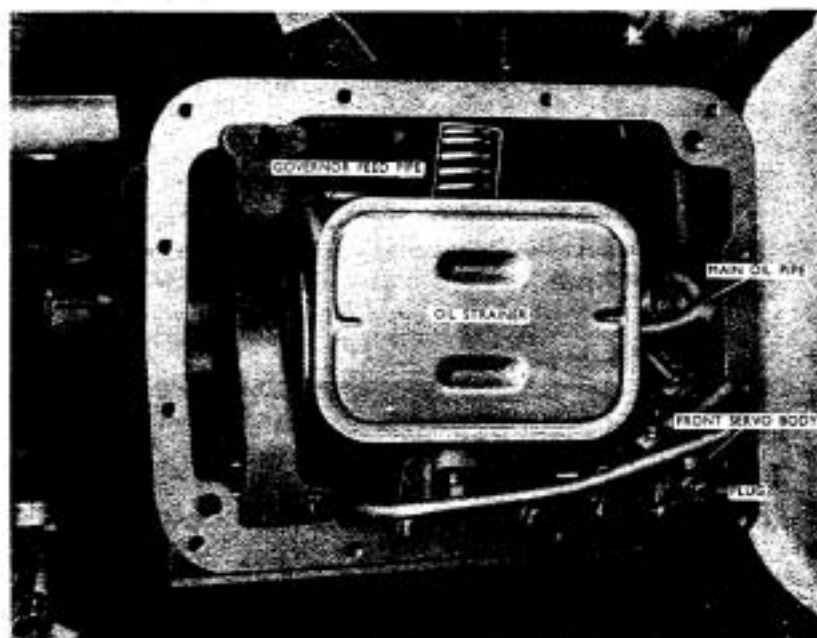

FIG. 3. GEARBOX - SUMP REMOVED.
- (v) Remove the oil strainer, Fig. 3, by pulling the rear end of the strainer down slightly, off the governor feed pipe, and then, sliding bodily rearwards off the main oil pipe.